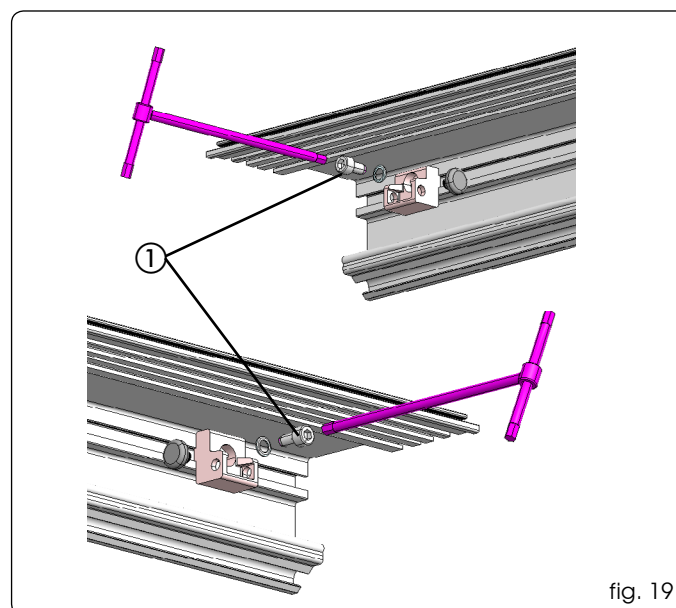

fig. 19
- Loosen the securing screws of the mechanical stops (Fig. 19 ref. ①) and take them to the ends of the support profile.